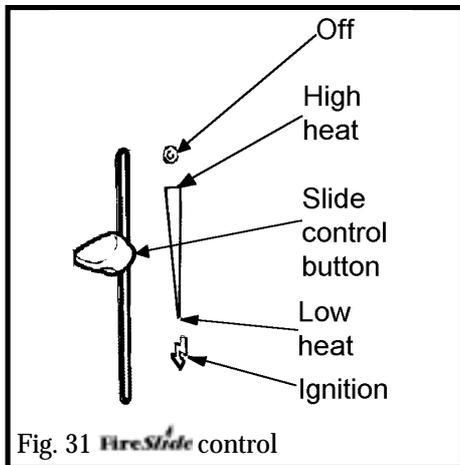

Fig. 31 FireSlide control
The control position markings on the front surround are shown in figure 31. When first turned on from cold, the flames will appear predominantly blue. Please note that, when operating the fire for the first time, some vapours may be given off which could set off smoke alarms in the vicinity. These vapours are quite normal with new appliances. They are totally harmless and will disappear after a few hours use.
11.1.5 Gradually slide the button up to increase the burner setting. The burner should be at its maximum setting at the high heat position shown in figure 31. You should feel a check to the button movement at this position.